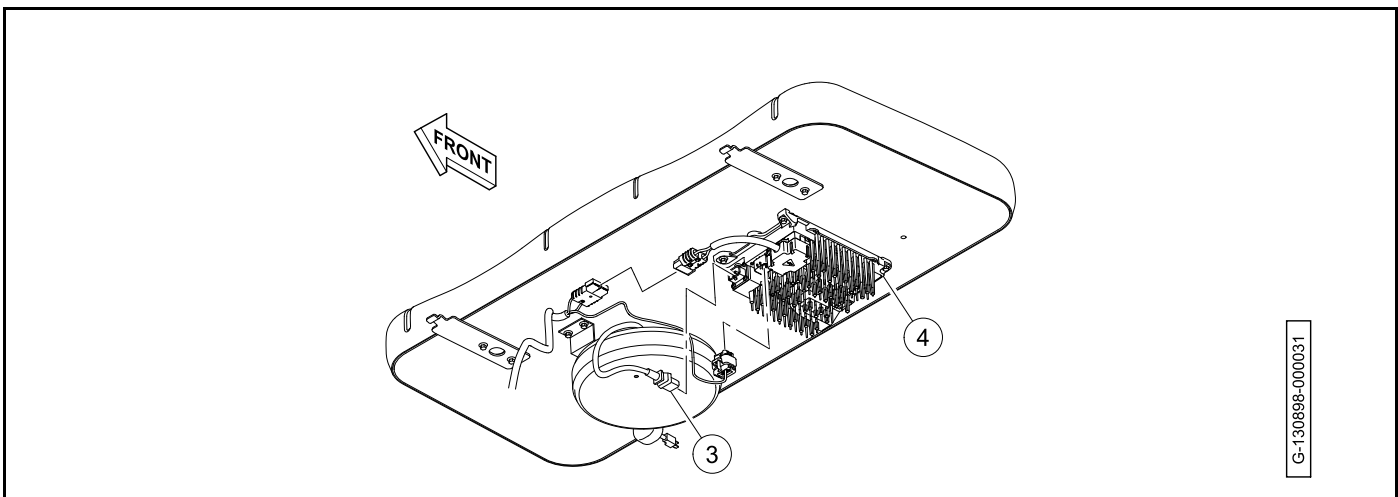

Figure 15-32 AC Cord Removal
7. Disconnect the AC cord (3) from battery charger (4) (**Figure 15-32**).
6. Disconnect the AC cord (3) from battery charger (4) (**Figure 15-32**).